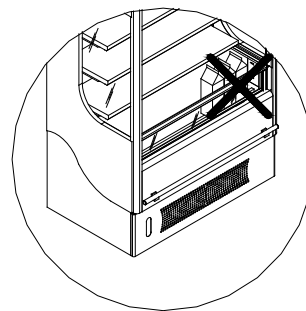

FIGURE 6
- Do not block the return vents that ensure a proper refrigerated air circulation. (Fig. 6)